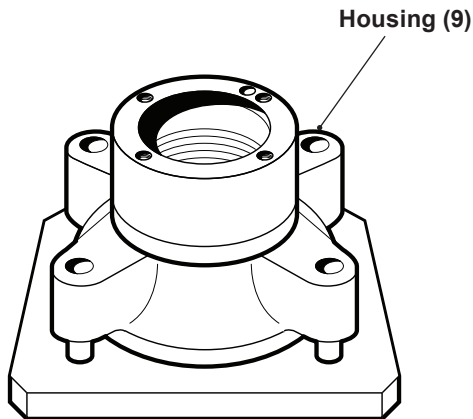

Figure 7, Motor Housing
1. Mount seal (5), washer (4), and ball bearing (3) onto output shaft (7). See page 11.
2. Install check valves (11), and needle bearing (12). See page 12.
3. Rotate the motor housing (9) so that the front (output shaft end) is pointing upward. See figure 7.